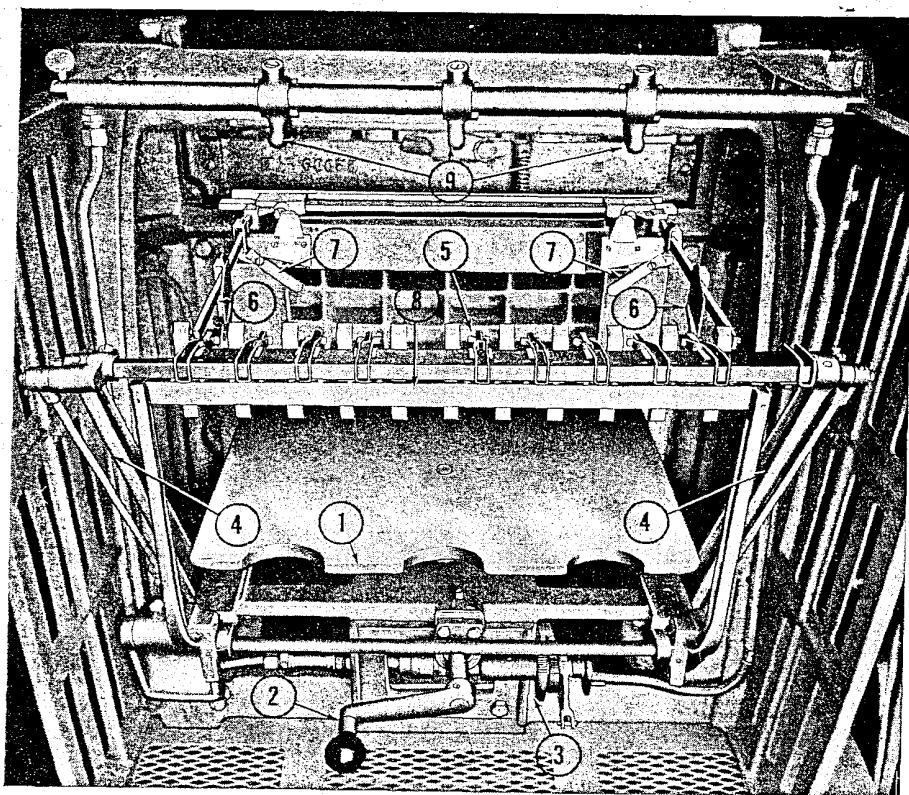

Figure 8—Delivery
f. **DELIVERY.** (See figure 8.) — The delivery mechanism includes the delivery table and its lowering mechanism, the delivery arms to which are attached the delivery grippers, the delivery stop finger bar and stop fingers, the jogger supporting bar with the side and rear joggles, and the delivery air blast tube and nozzles.